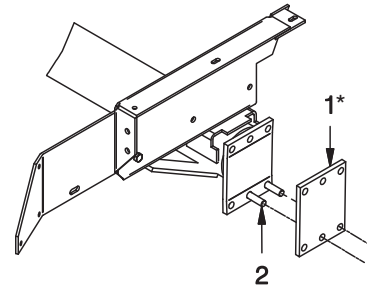

Figure 1 - Mounting Spacer Plate
A. Place (2) R13807958 Bolts through the axle as shown in Figure 1. Place (1) F000007636 Spacer as shown in Figure 1.